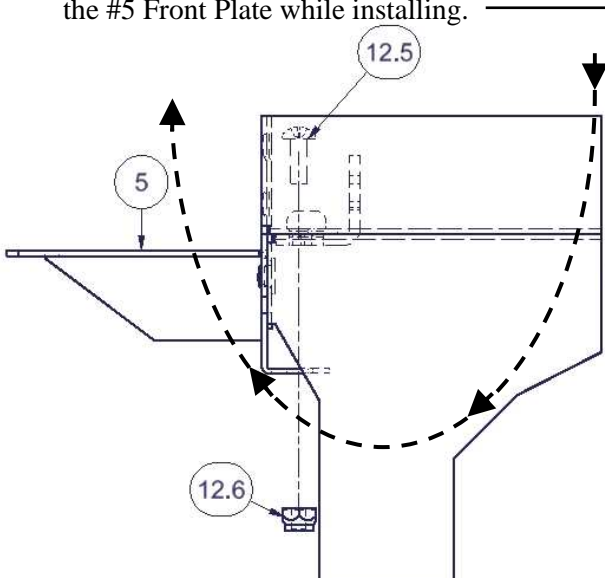

FIGURE 4a
- Position the #5 Front Plate toward the front of the insert from inside the console and secure it to the main body using (2) #12.5 screws, and (2) #12.6 Nylock nuts as shown in Figure 4a/b. NOTE: If you wish to run a semi-permanent power cord to the interior of the console for secure charging within the insert, place it in the middle of the cutout in the #5 Front Plate while installing.